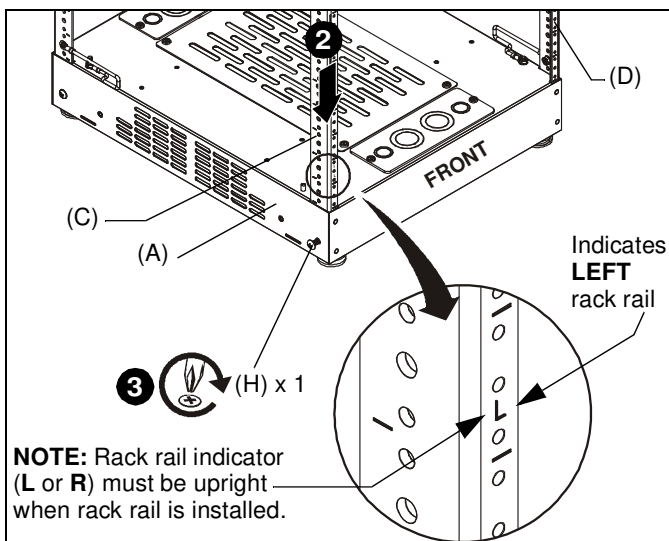

Figure 1
2. Lower one left rack rail (C) into one corner of base assembly (A). (See Figure 1)
3. Partially install (by hand) one 1/4-20 x 5/8" Phillips truss head machine screw (H) (approximately five turns) into the base assembly (A). (See Figure 1)